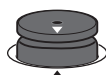

Fig.1
1. Insert the DO Adapter into the cell box with ▼ of the DO Adapter facing ▲ of the cell box. (Fig.1)